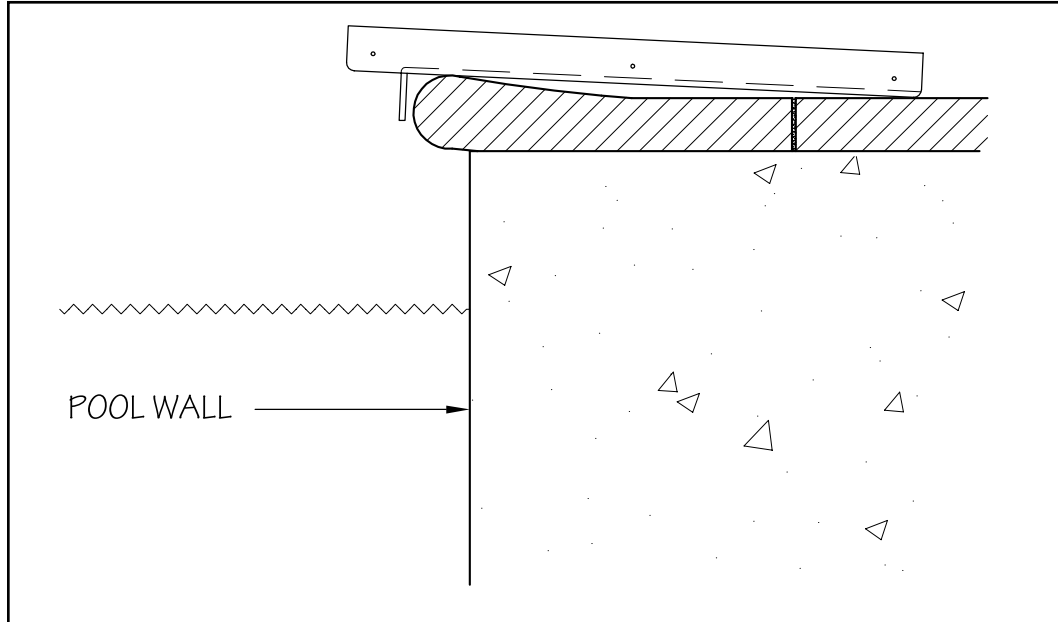

Fig. 8.1
- 8.2 Position the hose cover tray onto the pool deck so that the vertical lip of the tray is seated firmly against the coping. The coping MUST fully support the hose cover tray. The tray will be centered to the Fastlane Pro. If the pool has bullnose coping it is acceptable for the hose cover tray to be slightly out of level as shown in Figure 8.1.